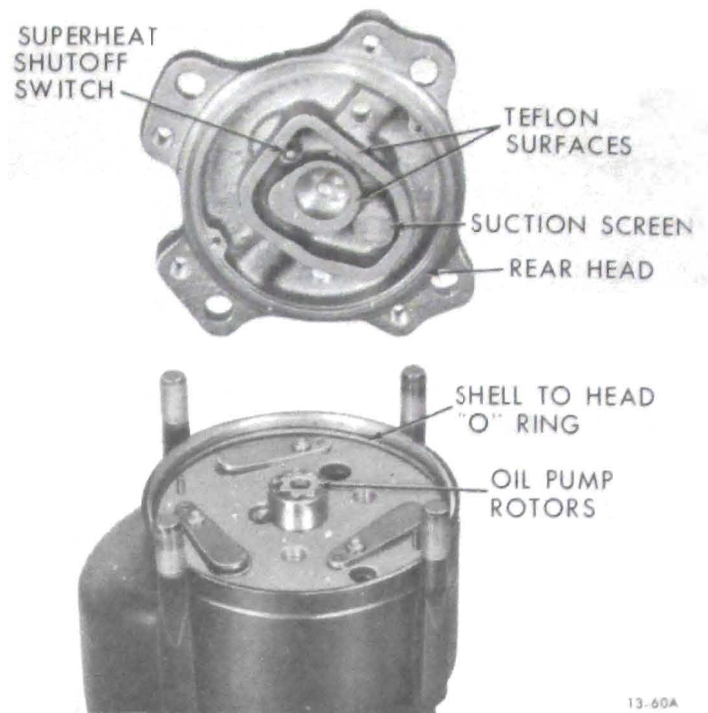

Figure 13-43 Rear Head Removal
6. Unscrew and discard four lock nuts from rear of compressor, and lift off rear head by tapping it with a mallet. If Teflon sealing surface is damaged (see Figure 13-43), replace rear head. Clean or replace suction screen as necessary.